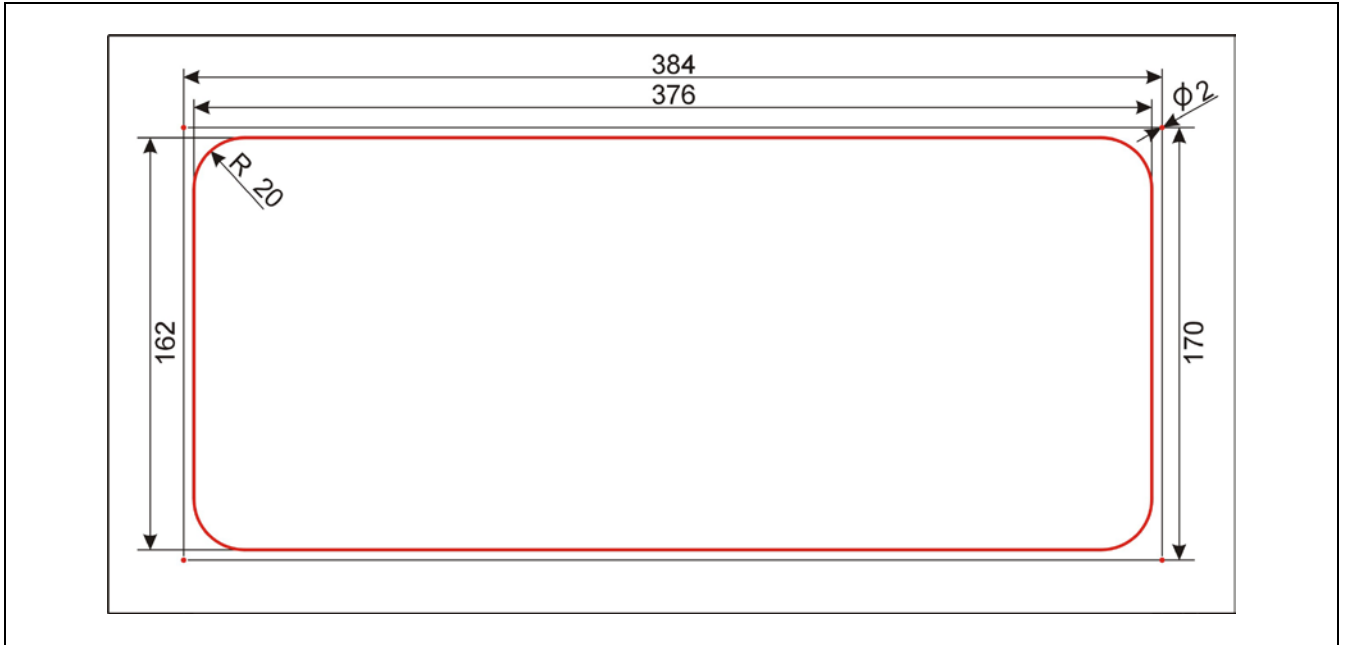

Figure 3.3.3 Fixing hole positioning diagram of HCS-8338/FM series congress terminal (unit: mm)
- Cut a hole in the table according to the dimensions in figure 3.3.3;